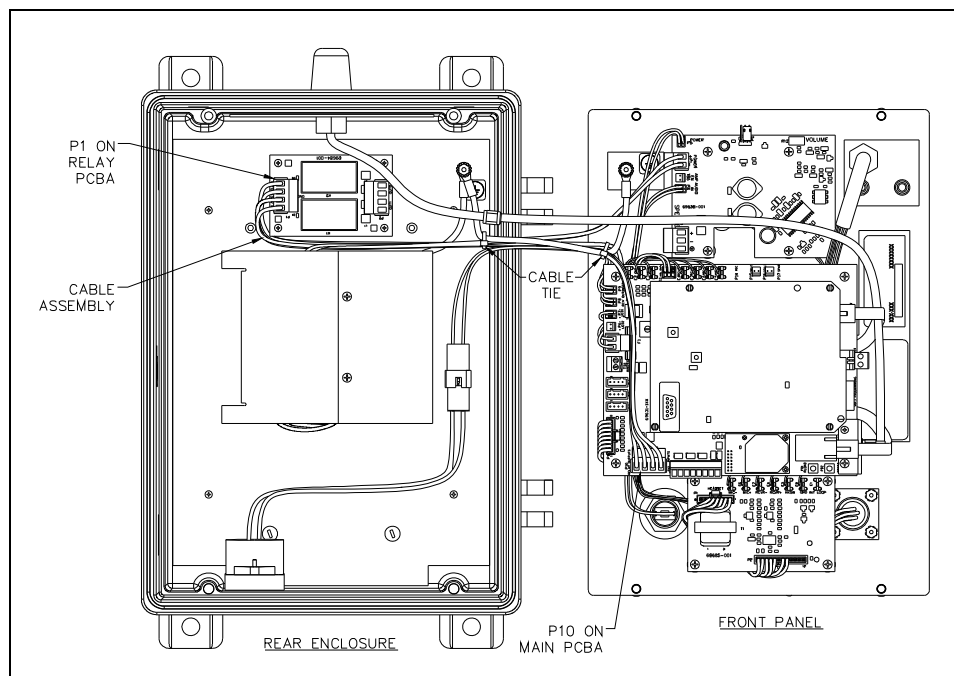

Figure 1. Installation and Wiring
3. Turn the front panel to the right so that the interior surfaces face you. Keep the wiring connected (see Figure 1).
5. Align the relay PCBA with the four PEM standoffs at the top of the mounting plate inside the rear enclosure. Make note of the PCBA orientation (see Figure 1).
7. Connect the cable assembly from P1 on the relay PCBA on the rear enclosure to P10 on the main PCBA on the front panel. Use the two cable ties provided to route wires (see Figure 1).